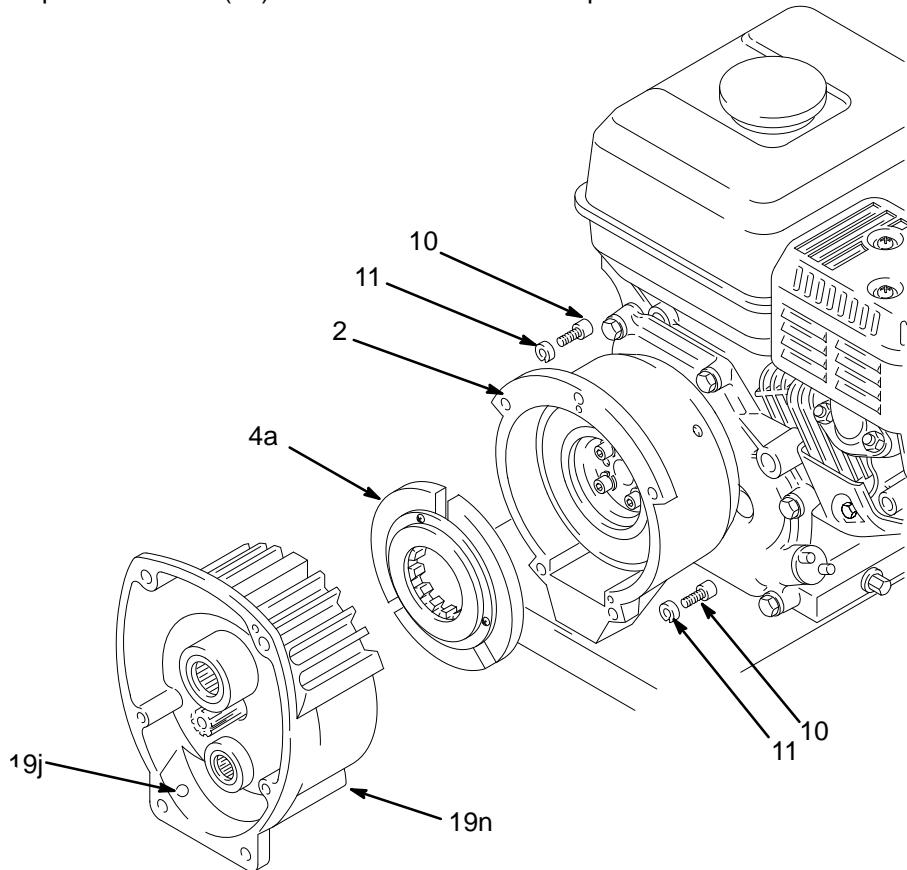

Fig. 20
**NOTE:** Refer to Fig. 20 for Steps 1 to 3, except where noted.
1. Remove the two bottom screws (10) first, and then remove the top three screws (10).